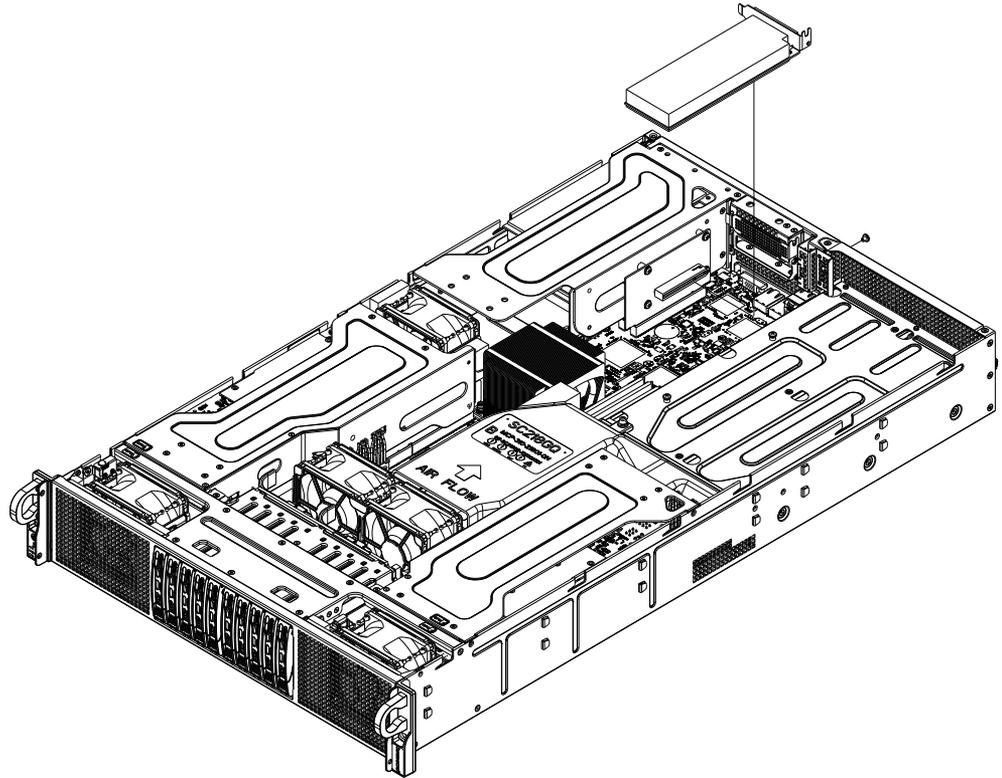

Figure 6-11 Low-profile PCIe Card Remove/Replace Example
6. Secure the rear bracket in the slot with the screw removed in step 3 and connect cables to the add-on card as necessary. See Figure 6-11 on page 59 for an example.